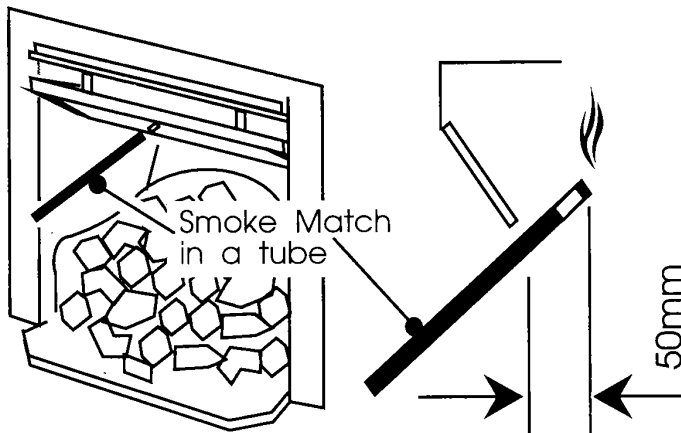

Fig.9
- b) After 5 minutes light a smoke match and position centrally as shown in Fig.9. The smoke should be drawn into the flueway.